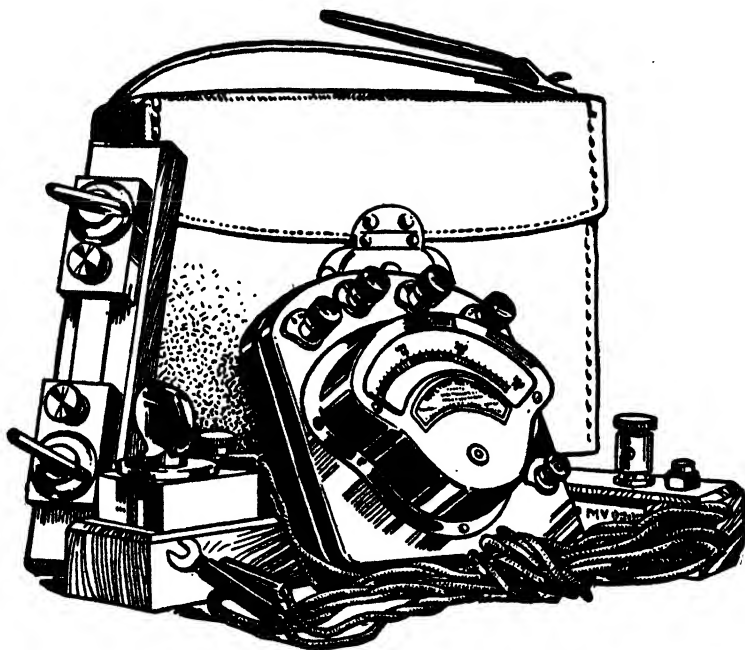

Fig. 214. Portable Combination Volt-Ammeter for Testing
*Special Testing Instruments.* For the garage that claims to be fully equipped to give all necessary attention to the electrical system of the modern car, something more than the simple lamp testing outfit is necessary. Portable volt-ammeters such as shown in Fig. 214 are made specially for this purpose. This is a Weston combination volt-ammeter, the voltmeter being provided with a 0-30, 0-3, and 0 to  $\frac{1}{10}$  scales for making voltage tests, together with three shunts having a capacity of 0-300, 0-30, and 0-3 amperes, respectively, which are used in connection with the